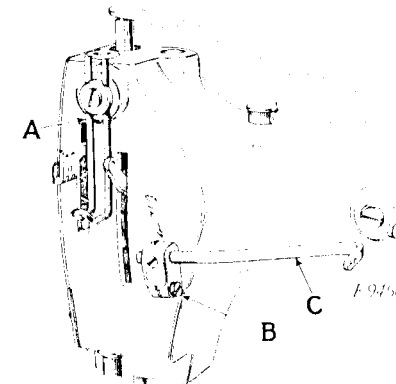

FIG. 13
The slack thread regulator (C, Fig. 13) on the front of the machine should be set so that when the loopers are shedding
the needle loops on their backward stroke, the thread will not snap off the points of the loopers nor be drawn through the tension discs. To set the slack thread regulator, it is best to start with the regulator in a low position and then continue raising the regulator until the loopers back out of the needle loops with a little tension on the thread. To make this adjustment, loosen the clamping screw (B, Fig. 13) and raise or lower the slack thread regulator as may be required, then securely tighten the clamping screw (B).
The auxiliary thread take-up (A, Fig. 13) at the front of the machine should be set so that it takes up the slack of the needle threads after the loopers have shed the needle loops and as the needle bar finishes its downward stroke and the stitch is set. To change the position of the auxiliary thread take-up, loosen the screw which holds it in position and raise or lower it, as required, then tighten the screw.